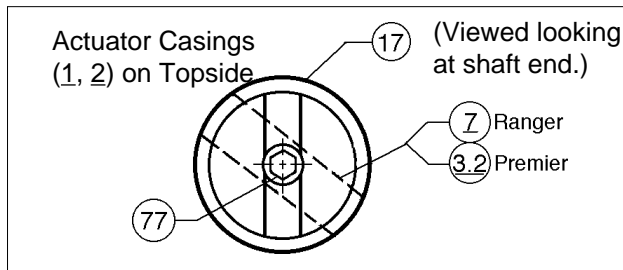

Figure 2.5 - Spacer Orientation
- 4a. Turn actuator handwheel CW to remove stem windup torque. The linkage from the actuator stem (9) will become slack. May require 1-3 revolutions. This will ease removal of cap screws (31).
- 4b. Remove three cap screws (31), dial lens (14), travel indicator dial (15), cover plate (13), cap screw (32), travel indicator (16), lock washer (55) and pin (51). Remove bearing (18), both bearing flanges (19) and indicator spacer (17).
- 4c. Discard removed dial lens (14), travel indicator dial (15), cap screw (32), travel indicator (16), washer (55), pin (51) and indicator spacer (17). Save only cover plate (13), bearing (18) and both bearing flanges (19) for re-use.
- 4d. Position the new positioner spacer (17) over the valve stem (7 - Ranger, 3.2 - Premier) end, oriented as shown below in Figure 2.5.
- 4e. Put Loctite #242 thread locking sealant, or equal, onto the set screw (77). Engage the set screw (77) into the tapped end of the spacer (17), until the set screw (77) is projecting out of the spacer (17) 3/16" – 1/4" (5 – 6 mm).
- 4f. Position positioner baseplate (26) to positioner mounting bracket (76) properly oriented such that positioner baseplate (26) bottom edge is parallel to the bottom edge actuator arm housing (4). Opposite side boltholes of bracket (76) must also align with boltholes of actuator arm housing (4) and cover plate (13). Use four cap screws (79) to secure the baseplate (26) to the bracket (76). Place connected parts (26, 76, 79) aside.
- 4g. Position bearing flanges (19) with retainer ball bearing (18) over the spacer (17). Align the bearing flange (19) bolt holes with the arm housing (4) bolt holes.
- 4h. Position cover plate (13) over the bearing flanges (19) aligning the cover plate (13) bolt holes with those of the bearing flanges (19). Hold cover plate (13) on outer edge with fingers. **NOTE:** Ensure that the three tapped holes in the cover plate (13) used to mount the bracket (76) are near the 1 o'clock, 5 o'clock and 9 o'clock positions. Engage three cap screws (31) to secure spacer (17), bearing flanges (19) and cover plate (13) securely to arm housing (4). **NOTE:** It may be necessary to rotate the actuator manual handwheel operator (58) downwards, or alternately supply a small level of air pressure (5-7 psig, 0.35 - 0.50 Barg) to assist in aligning bolt holes for cap
- 4a. Turn actuator handwheel (58) CW to remove stem windup torque. The linkage from the actuator stem (9) will become slack. May require 1-3 revolutions. This will ease removal of cover plate (13).
- 4b. Remove four cap screws (34), two cap screws (31), dial lens (14), travel indicator dial (15), cap screw (32), travel indicator (16), lock washer (55) and pin (51).
- 4c. Remove cover plate (13) carefully, prying out with a screwdriver or similar instrument. Shaft-end bearing (18) may slide out when cover plate (13) is removed; otherwise, remove bearing (18).
- 4d. Remove indicator spacer (17).
- 4e. Discard removed dial lens (14), travel indicator dial (15), coverplate (13), two cap screws (31), travel indicator (16), cap screw (32), indicator spacer (17), pin (51) and washer (55). Save only four cap screws (34) for re-use.
- 4f. Position the spacer (17) over the valve stem (7 Ranger, 3.2 Premier) end, oriented as shown in Figure 2.5.
- 4g. Put Loctite #242 thread locking sealant, or equal, onto the setscrew (77). Engage the setscrew (77) into the tapped end of the spacer (17), until the setscrew (77) is projecting out of the spacer (17) 3/16"-1/4" (5-6 mm).
- 4h. Position bearing (18) over the spacer (17) and push fully inwards.
- 4i. Position cover plate (13) over bearing (18) ensuring that cover plate (13) gets properly centered and shouldered within the arm housing (4). Align the four bolt holes within the arm housing (4). Engage the cap screws (34) to secure the cover plate (13) to the arm housing (4), tightening cap screws (34) evenly.